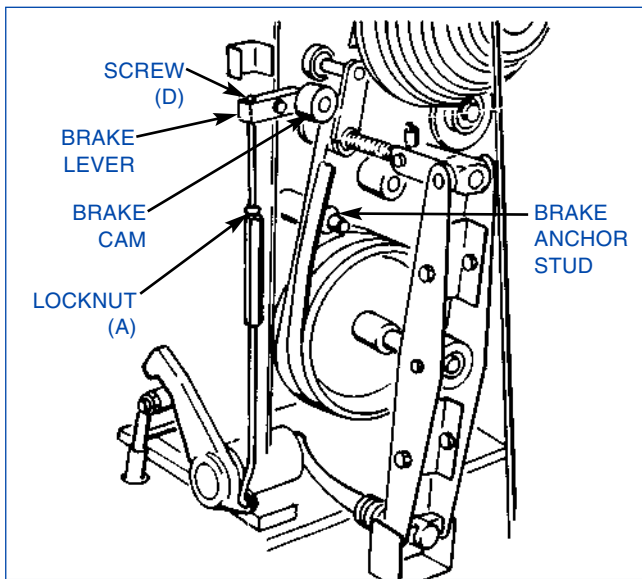
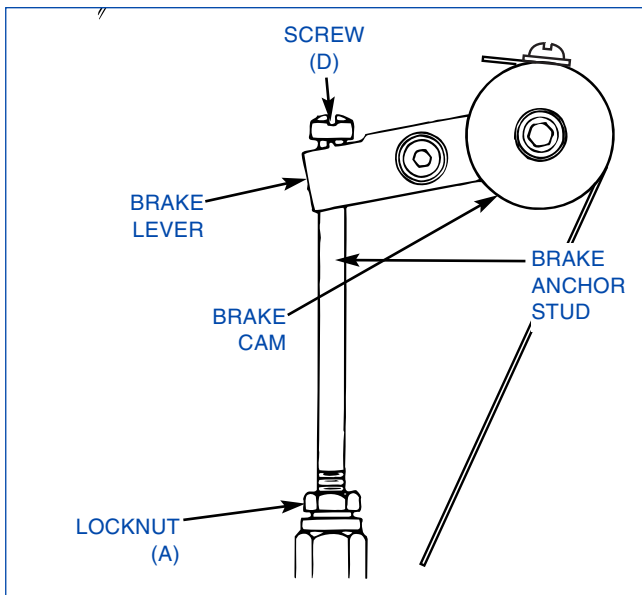

FIGURE 4-18, Brake
FIGURE 4-19, Brake
Adjusting Brake Strap Tension will increase or decrease time required for spindle to come to a complete stop after honing operation is completed. Adjust tension as follows (see Figure 4-18):
To replacement worn or broken Brake Strap proceed as follows (refer to Figures 4-19 & 20):
4. Open right side of Belt Guard by removing one (1) Button Head Capscrew, using 5/32" hex wrench.
5. Step on Pedal and remove Brake Strap from Brake Anchor stud (refer to Figure 4-18). Then release pedal.
6. Loosen Locknut (A).
7. Loosen Socket Head Capscrew (D) in Brake Cam, using 1/4" hex wrench.
8. Remove Slotted Head Screw (C) and Washer from Brake Cam. Discard worn Brake Strap (refer to Figure 4-19).